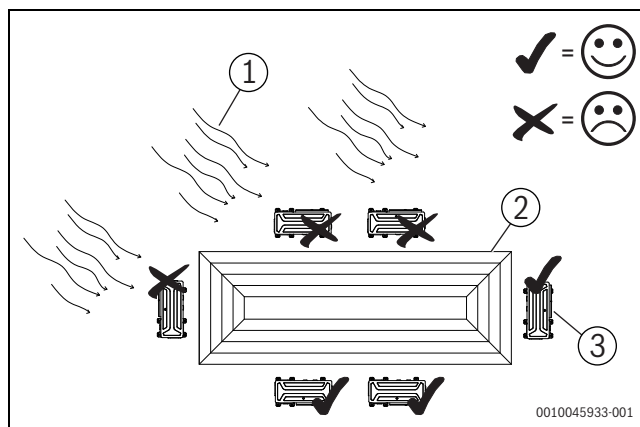

Fig. 1
- ▶ When an outdoor unit is installed in a place that is frequently exposed to strong winds like a coast or on the high story of a building, ensure normal fan operation by using a duct or a wind shield (fig. 1)